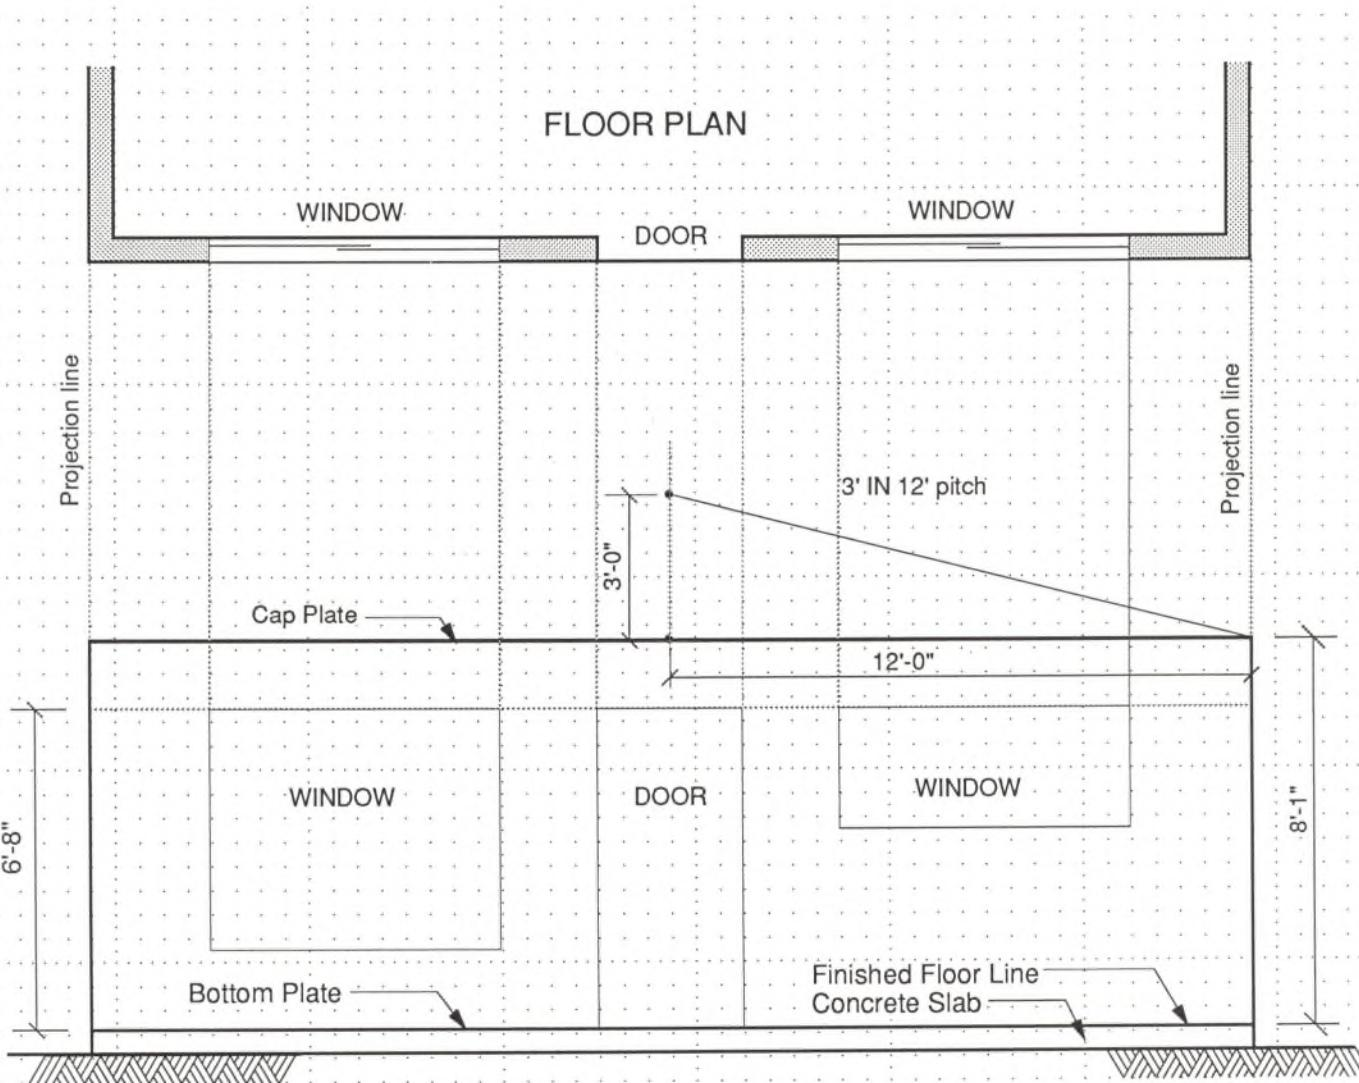

Fig. 24.9 Locate the center of the wall and draw the roof angle.
2. Draw a light centerline up from the cap plate, as shown in Fig. 24.9.
3. Lay your triangle or straight edge on the drawing and connect the top corner of the wall with the dot on the 12' line as in Fig. 24.9.